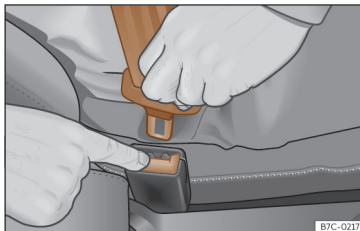

Fig. 43 Release the seat belt's latch plate.
- Press the red button on the buckle >>> **Fig. 43.** The latch plate is released from the buckle.